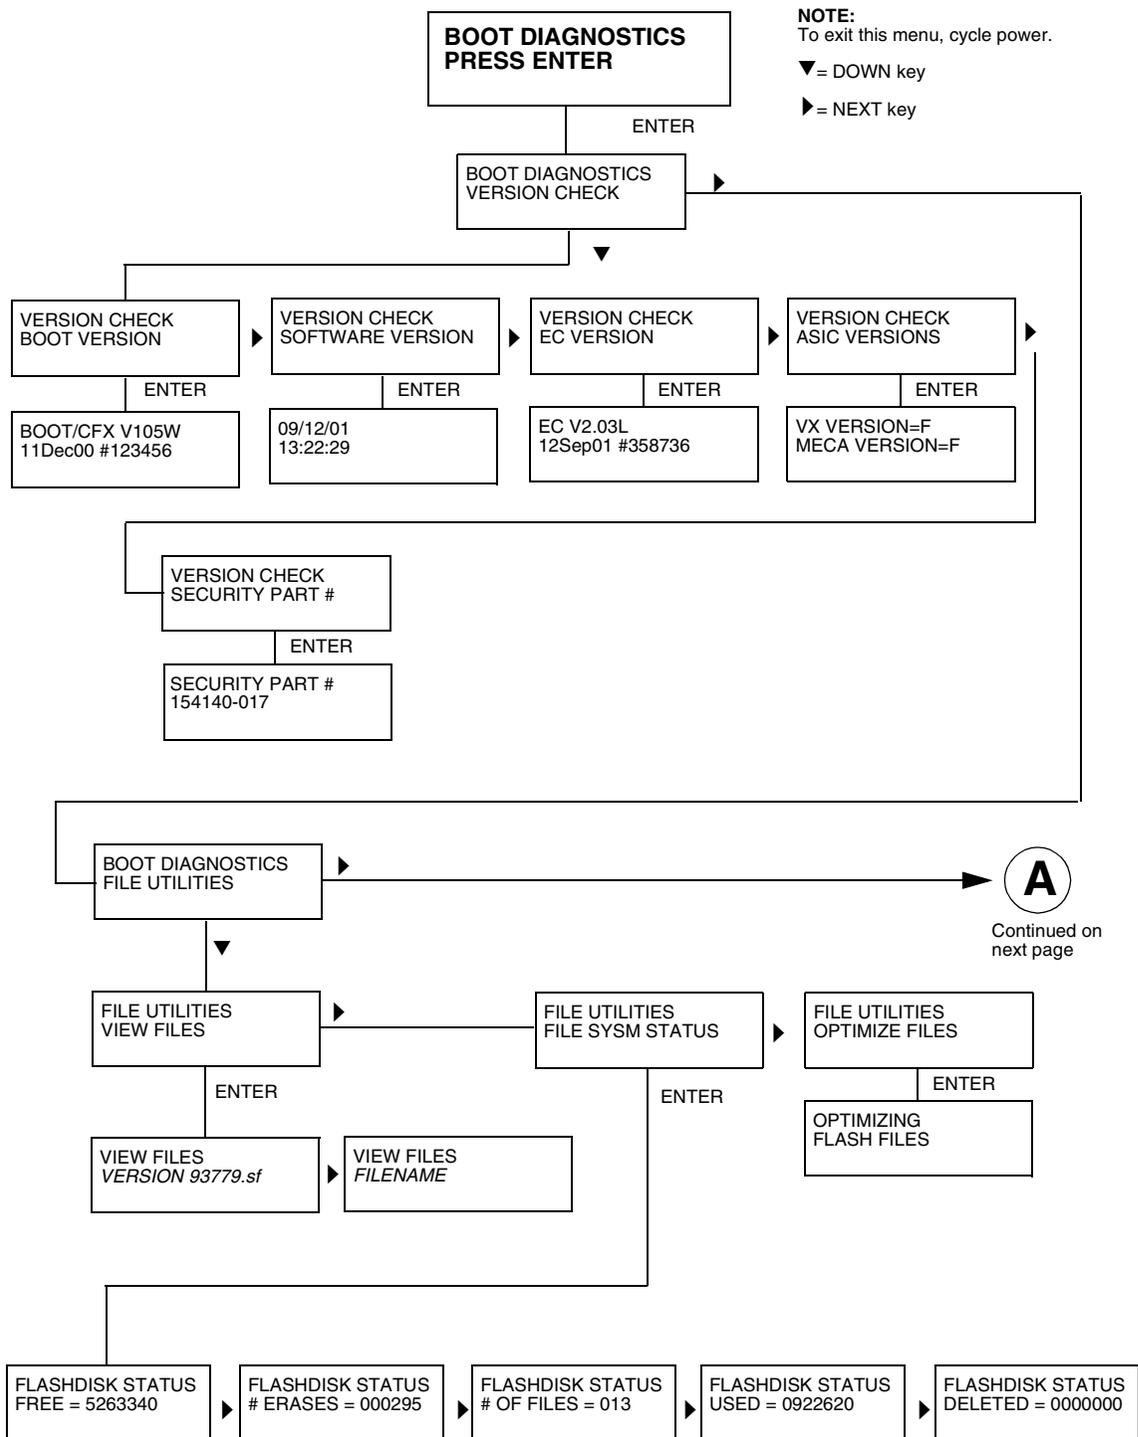

Figure 7. Boot Diagnostics Menu
The boot diagnostics menu is a multi-level menu that operates the same way as the user menus. The menu structure is shown in Figure 7 on page 123.
5. Press the ENTER key. Menu options are shown in Figure 7.